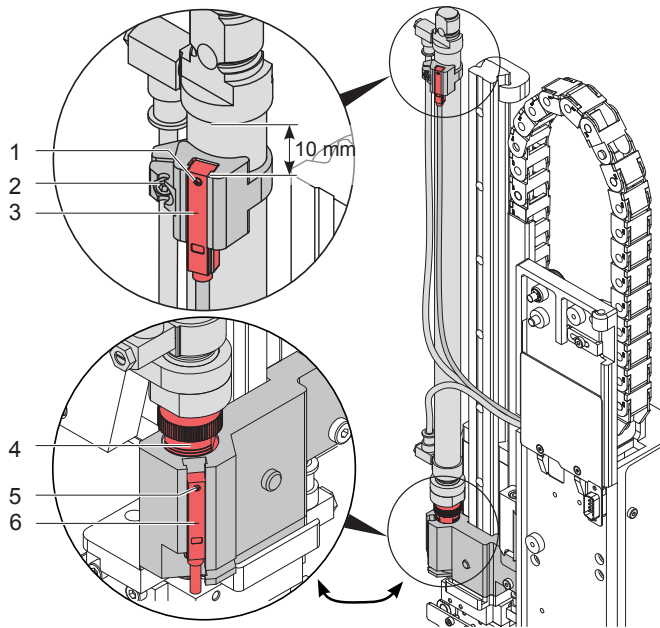

Fig. 23 Sensors on cylinder Z
1. Loosen screw (1) of sensor "Start Position" (3) and move the sensor so that the top edge of the sensor sits comfortably in the sensor holder.
4. Loosen screw (2) of the sensor holder.
5. Position the sensor so that it triggers securely with lit up LED at complete contraction of cylinder Z. This is achieved with the top edge of the sensor being about 10 mm from the top edge of the connection ring. (Fig. 23)
6. Tighten screw (2).